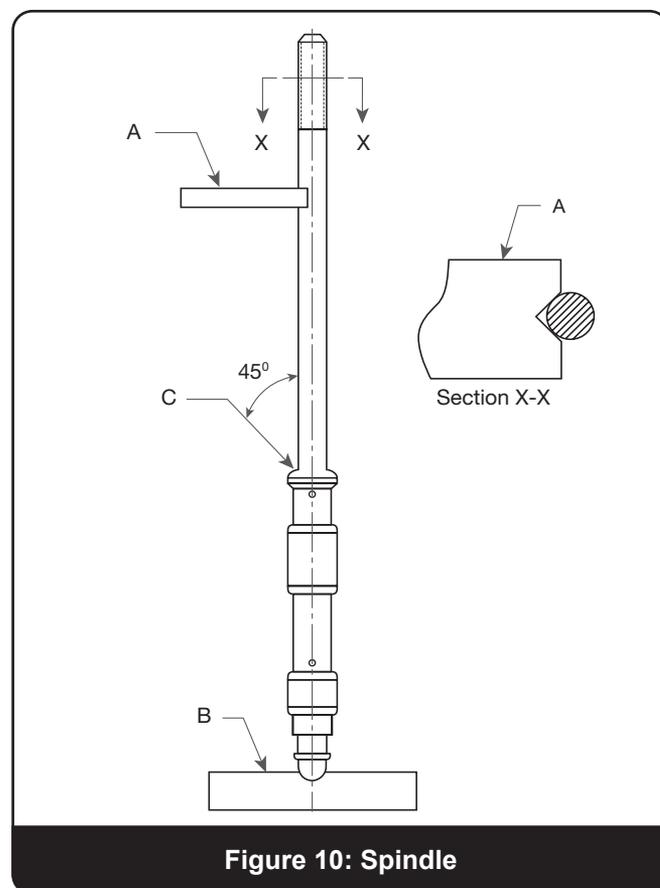

Figure 10: Spindle
It is important that the spindle be kept very straight in order to transmit the spring force to the disc without lateral binding. Overgagging is one of the common causes of bent spindles. A method to check the essential working surfaces of the spindle is illustrated in Figure 10. This may be performed either with or without the disc collar and lift stop on the spindle.
- a. Using Figure 10 as a reference, clamp a V block (A) made of wood, fiber or other suitable material onto the platform railing. Imbed the ball end of the spindle in a piece of soft wood (B) and place the top of the spindle below the threads, in the V block (A). Clamp a dial indicator onto the railing and locate at point (C). The total indicator reading should not exceed .007" (0.18 mm) when the spindle is rotated. If it does, the spindle must be straightened prior to reuse.